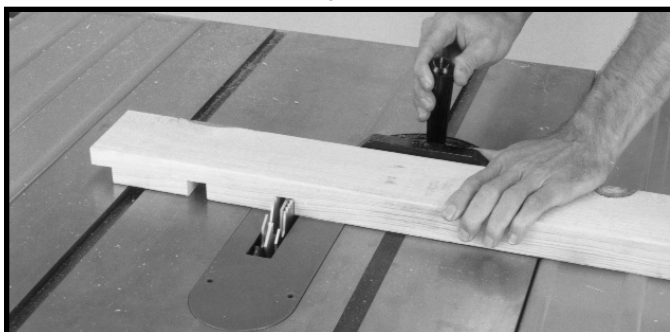

Fig. 65
3. Fig. 65, shows a typical dado operation using the miter gage as a guide.